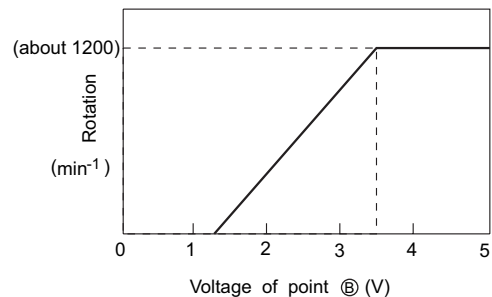

Fig. 5-3
- This pulse changes to analog voltage by R751 and C751 and it is applied to the fan motor as instruction voltage number of rotations. The relationship between the voltage of point ② and number of rotations becomes as shown in Fig. 5-3. (The gap may arise depending on the condition of unit.)
- The feedback pulse of number of rotation is outputted from the fan motor and input to micro computer pin ④⑭. The frequency of this pulse is 12/60 of the number of rotations. (Ex: 1000min⁻¹ X 12/60=200Hz) The microcomputer observes this frequency and to make it as the instruction number of rotation all the time, adjusts the output pulse width of pin ④⑩.